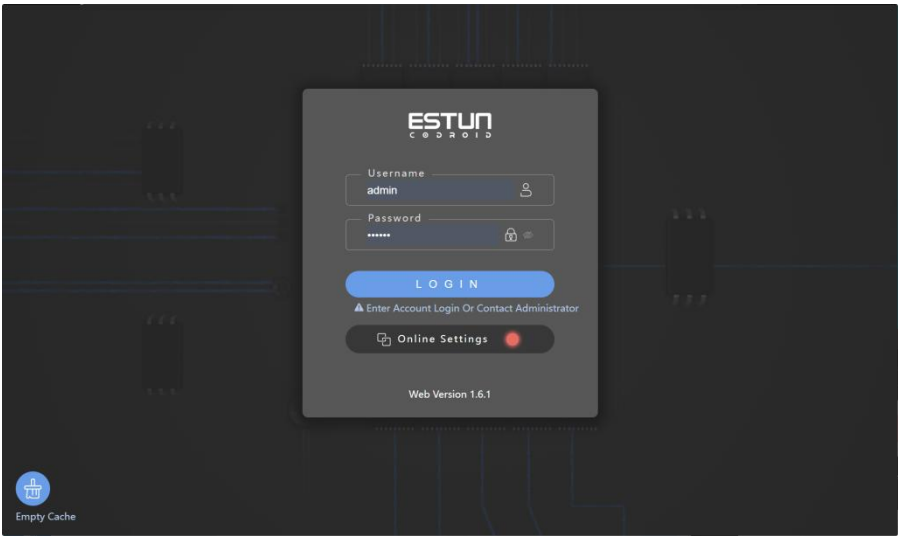

Figure 3-11 Login Page
4. Open the browser and enter the robot's IP address: 192.168.101.100:9098 in the address bar. Press Enter to jump to the login page as shown in Figure 3-11. If you cannot jump to the login page, please check the IP address of the tablet. If you still cannot